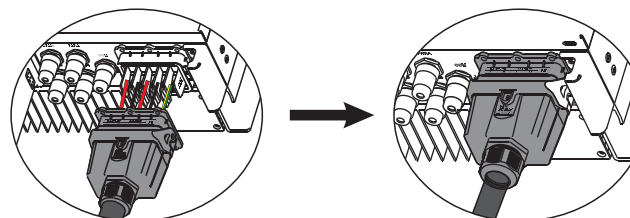

Figure 4.3-6 Install ac connection terminals
Step 4. Connect the combined AC cable to the AC terminal of the inverter, tighten the cable to a torque of 2.0 N.m to 2.5 N.m, and then lock the AC cover. See Figure 4.3-6.